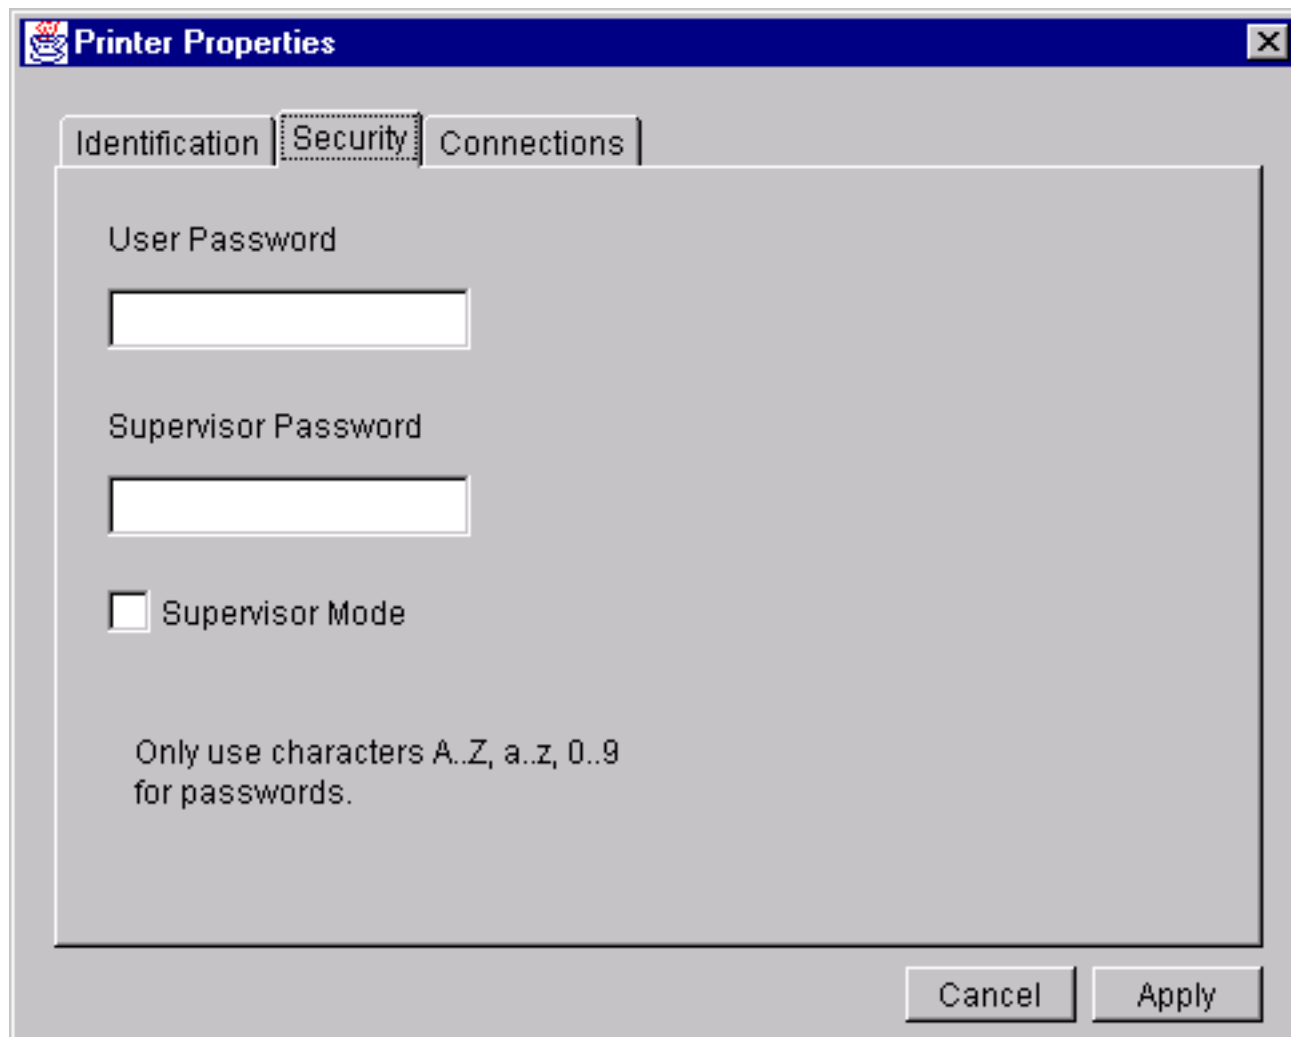

Figure 3. Printer Properties (Security)
- Click on the tab at the top of the window that reads, "Security." The Printer Properties window changes to the Security screen. See Figure 3.